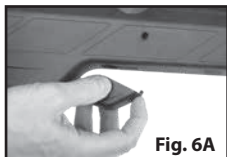

Fig. 6A
3. Rotate the Cover away from the AIRBOW. Lift and move the Cover forward to allow the retaining tab to exit the AIRBOW stock (FIG. 6A). Stow for replacement later.